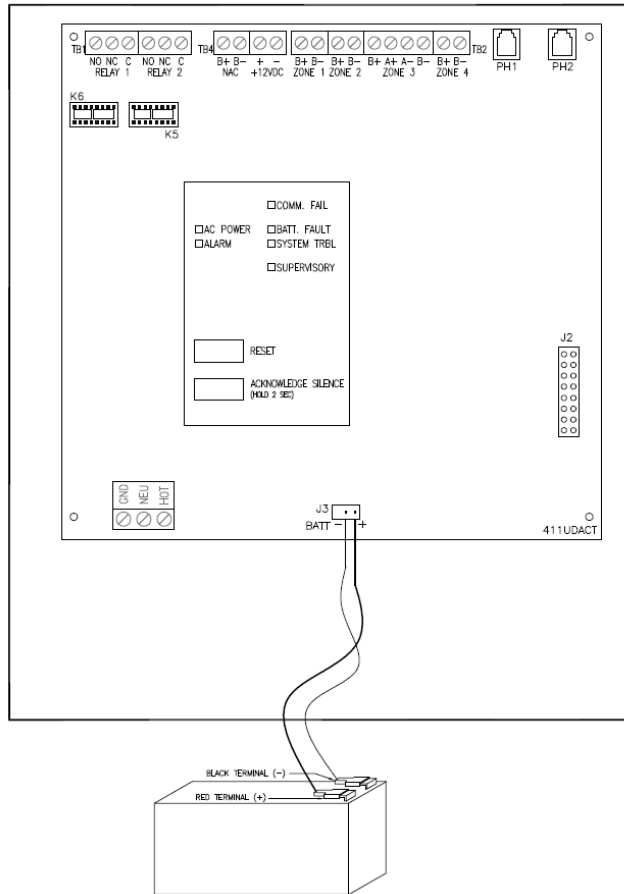

Figure 8 – Battery Wiring
3.3.4.4. Battery Wiring. See Figure 8. **DO NOT** connect battery until commissioning.
7	Open control unit (see Figure 1 item 8). Connect battery. See Figure 8.
2	Verify that battery is properly connected to control unit (see Figure 8).